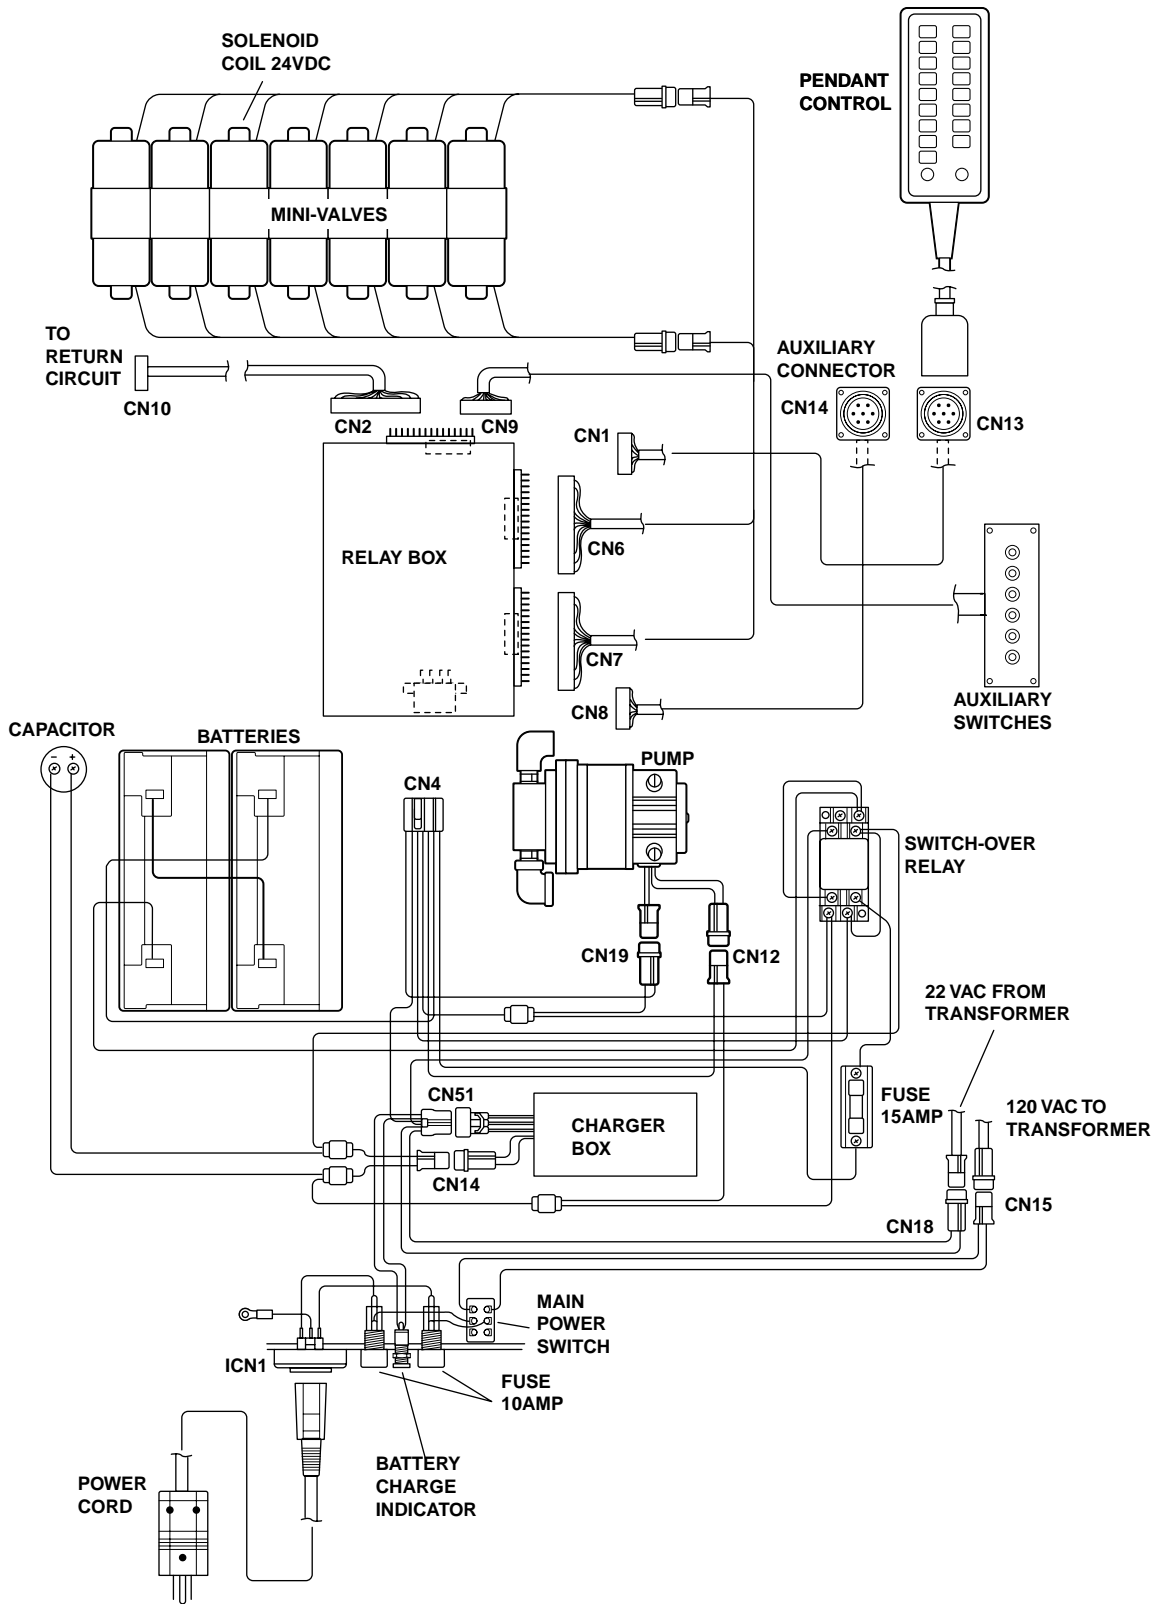

Figure 6-1. Electrical Circuit Block Diagram, Model 6002B
2. Disconnect connector CN15. See figure 6-1. Leave all other connectors connected.